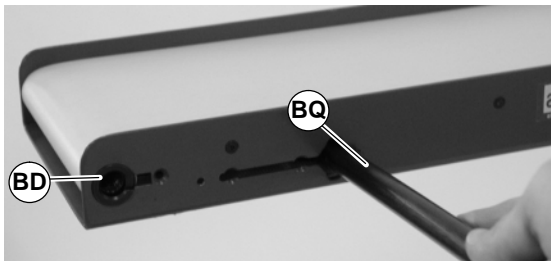

Figure 52
6. Using pulley installation tool (BQ) as a lever, align pulley bore with conveyor frame opening. Insert retaining sleeve (BD of Figure 52) into pulley until flush with conveyor frame.